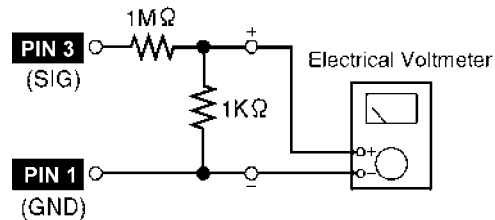

Figure 5
1. Connect the electrical voltmeter to Pin 3 (signal) & Pin 1 (ground) (Figure 5).